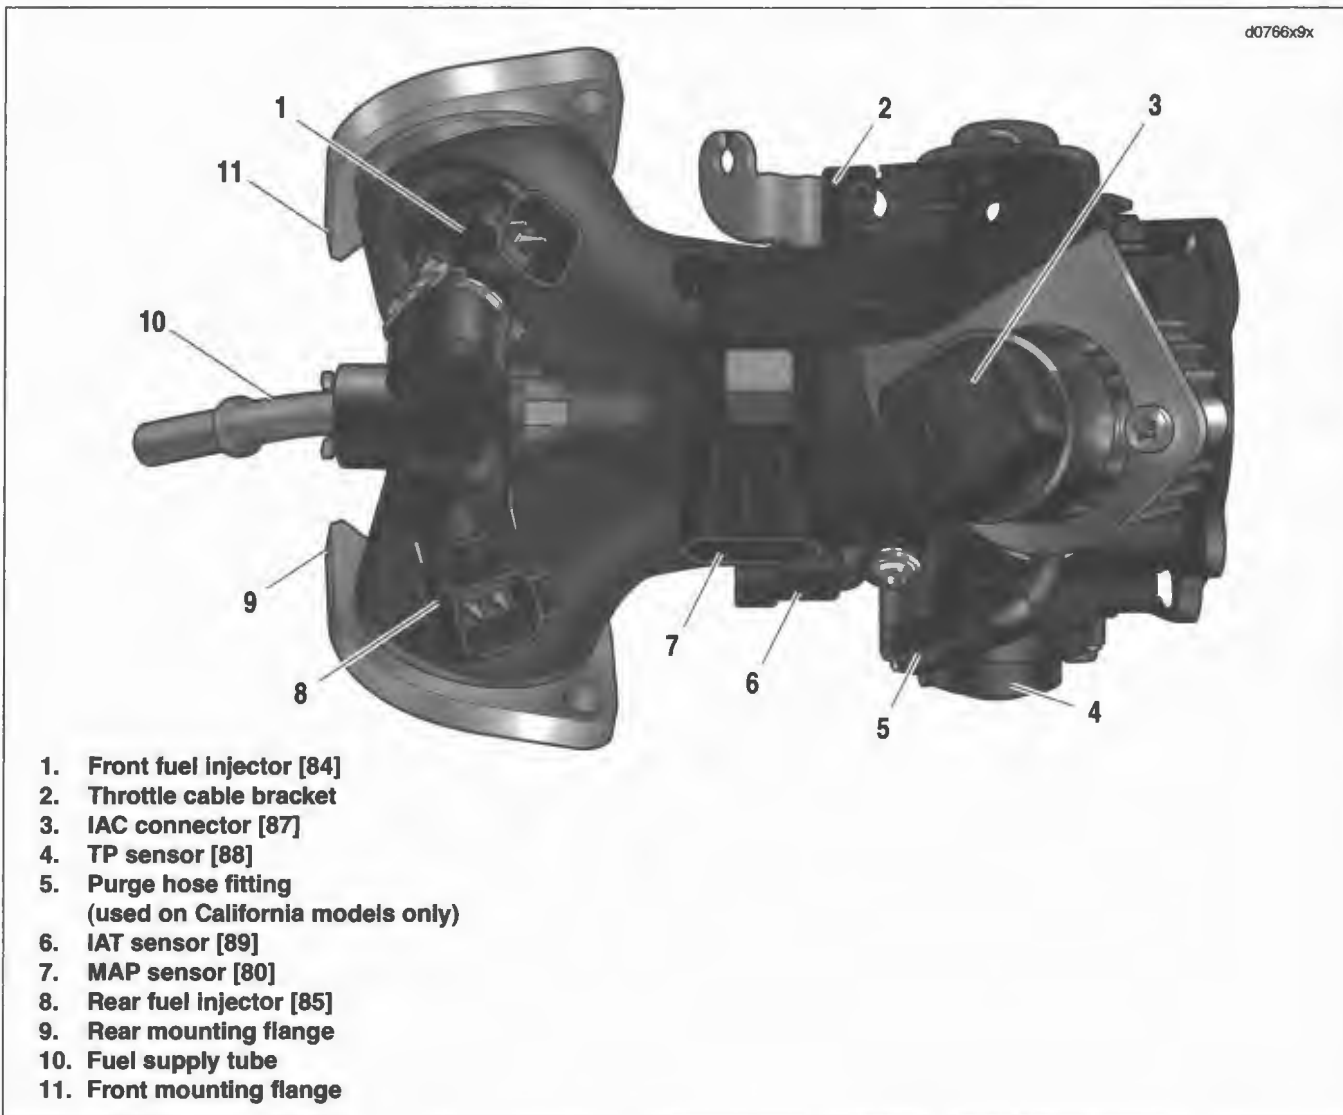

Figure 4-21. Induction Module
4. See Figure 4-21. Pull purge hose from fitting (5) at top of induction module (California models only).
6. See Figure 4-21. Remove idle air control connector (3) [87] and manifold absolute pressure sensor connector (7) [80].
1. See Figure 4-21. Place a **new** seal in each mounting flange (9, 11) with the beveled side in against the counterbore.
5. See Figure 4-21. On California models, attach purge hose to fitting (5) on throttle body.
6. Connect front (1) and rear (8) fuel injector connectors, IAC (3) connector, MAP sensor (7) connector, TP sensor (4) connector and IAT (6) sensor connector.